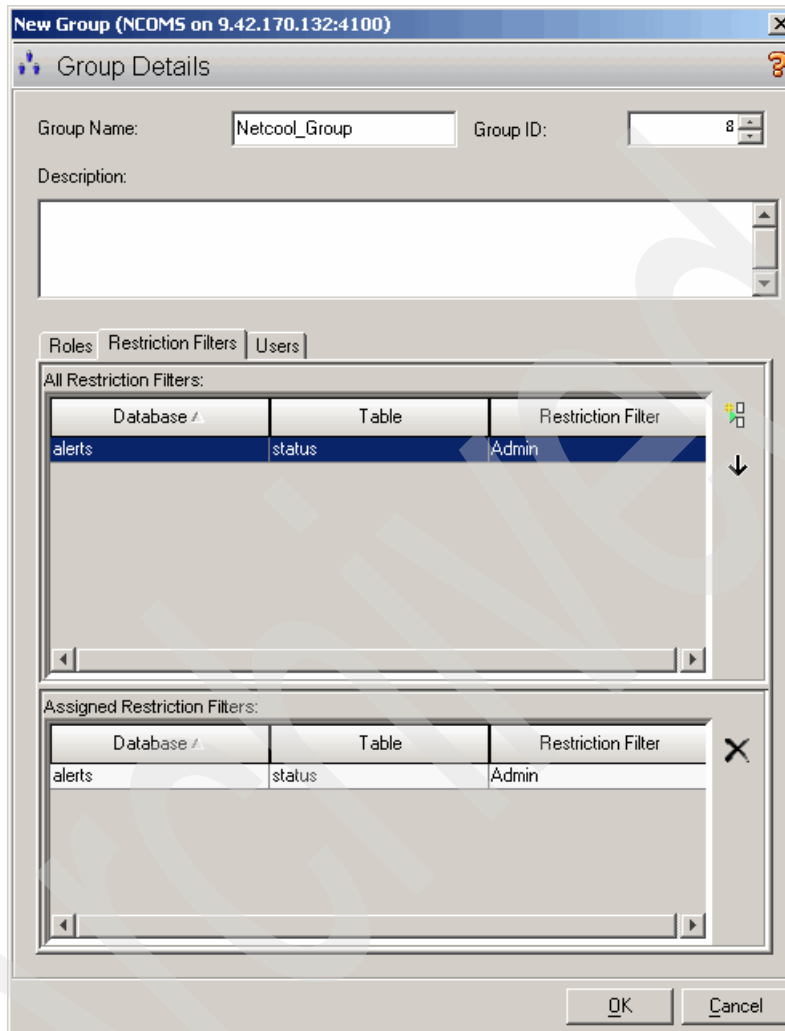

Figure 4-20 IBM Tivoli Netcool/OMNibus Administrator Restriction Filter tab
3. You can assign a Restriction Filter, as shown in Figure 4-20.